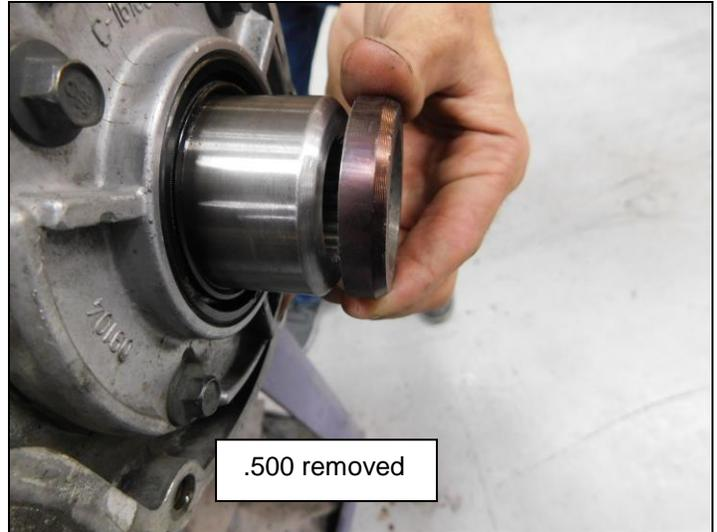

Figure 6
5. Have the second person turn the output shaft yolk. This will spin the input shaft allowing the person operating the cut off wheel to accurately cut the input shaft just before the reference line (**Figure 6**).